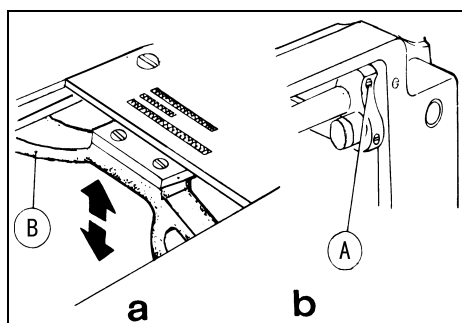

Fig. 22
- 3) Loosen Screw (C) of hook positioner and take down Hook Positioner (A).
- 4) Loosen two Screws (D) of rotating hook.
- 6) Installing the hook can be done in reverse sequence. Note that Needle (B) and the convex surface of Hook Positioner (A) should align with a clearance of 0.5-0.7mm between them.
17. ADJUST THE HEIGHT OF FEED DOG (Fig.22,23)
- 2) Loosen Screw (A) of feed lifting rock shaft crank right (See Fig.22,b)
- 3) Move Feed Bar (B) in the direction shown by the arrow in Fig.22 (a) to adjust the height of the feed dog. The standard height of feed dog is that the top of feed dog is 1mm above Throat Plate Surface (B).
- 4) After the adjustment, be sure to tighten Screw (A).